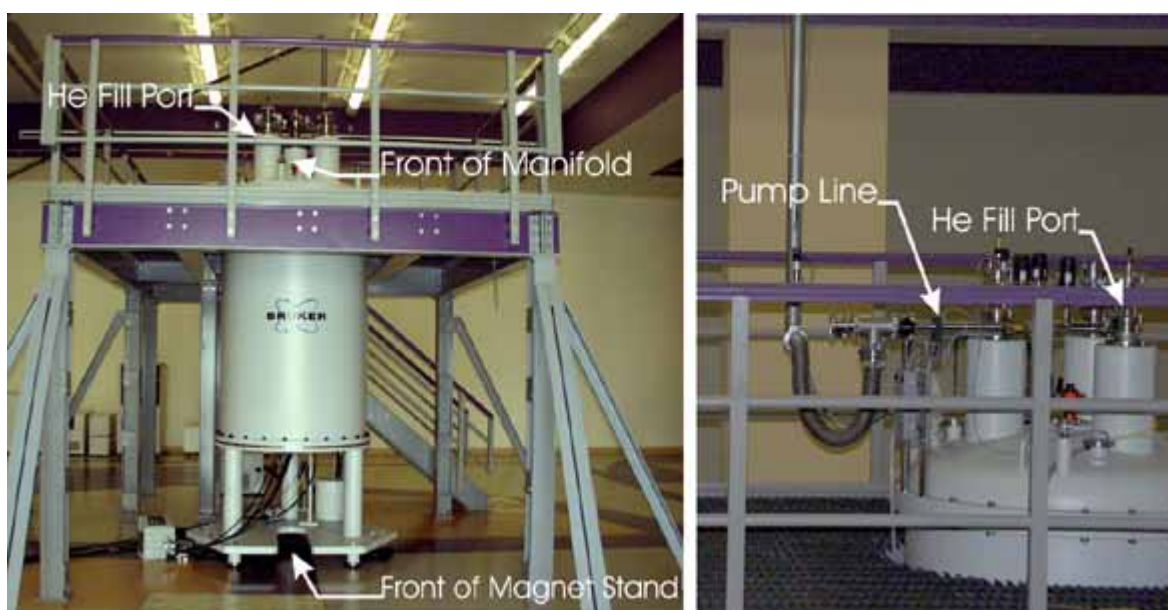

Figure 7.2. UltraStabilized Magnet Orientation
- **Magnet pump line:** The magnet pump line connects to the back of the manifold (see ***Figure 7.2.***).